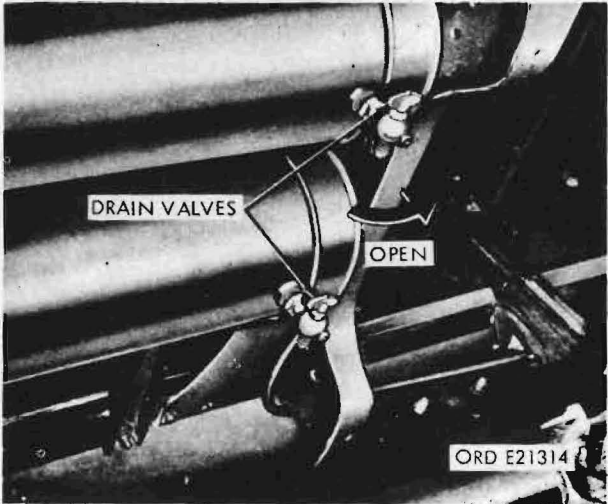

Figure 40. Air reservoir drain valves.
(25) *Air-reservoir drain valves* (fig. 40). The air-reservoir drain valves, located on the air reservoirs, are turned to vent the air pressure from the compressed air system and drain the accumulated water from the air reservoirs.